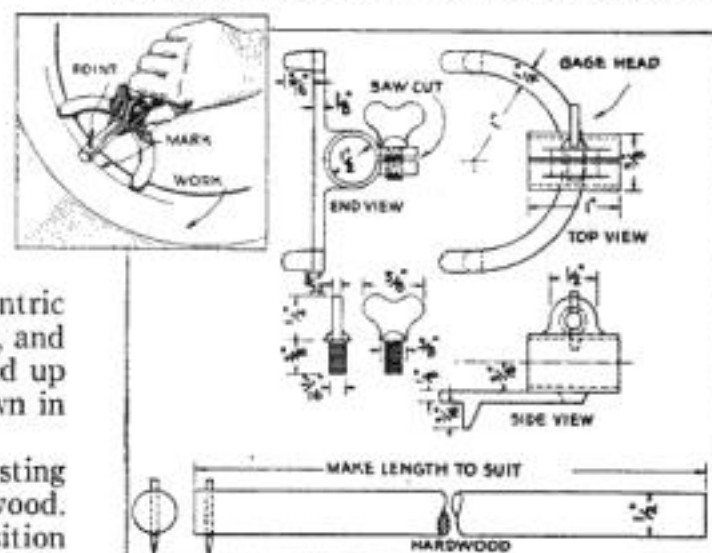

Fig. 3. An adjustable gage for scribing circular work.
**W**HERE production in either the machine shop or the pattern shop requires numerous concentric circles to be laid out on disks, flanges, and similar parts, the work can be speeded up if a circle-scribing gage like that shown in Fig. 3 is used.